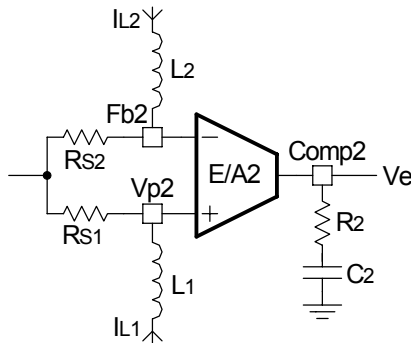

Fig. 22: The Compensation network for current loop
As shown the $G(s)$ is a function of inductor current. The transfer function for compensation network is given by equation (23), when using a series RC circuit as shown in figure22.